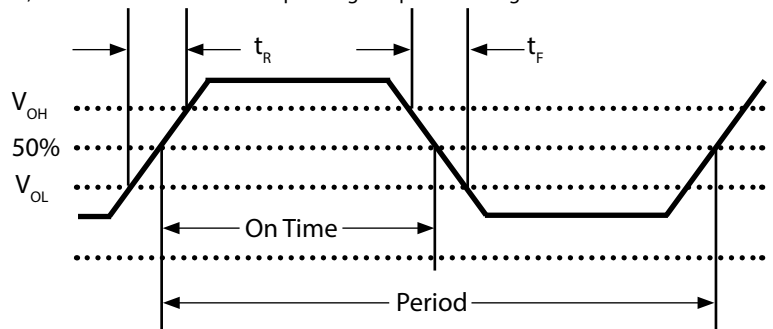

Fig 2: Waveform
- 5) Duty Cycle is measured as On Time/Period, see Fig 2.
- 5] Duty Cycle is measured as On Time/Period, see Fig 2.
5] Duty Cycle is measured as On Time/Period, see Fig 2.